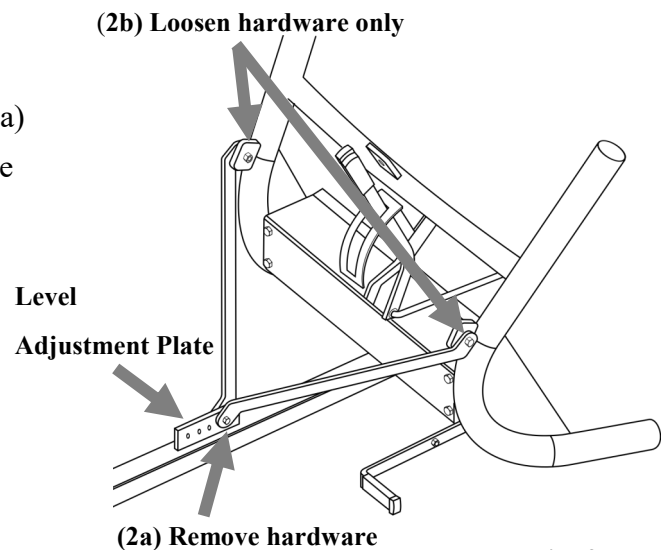

Fig. 2
1. Remove the hardware attaching the arms to the hitch (2a) as shown in Figure 2. Loosen the hardware attaching the arms to the spreader frame (2b). It is not necessary to remove this hardware.